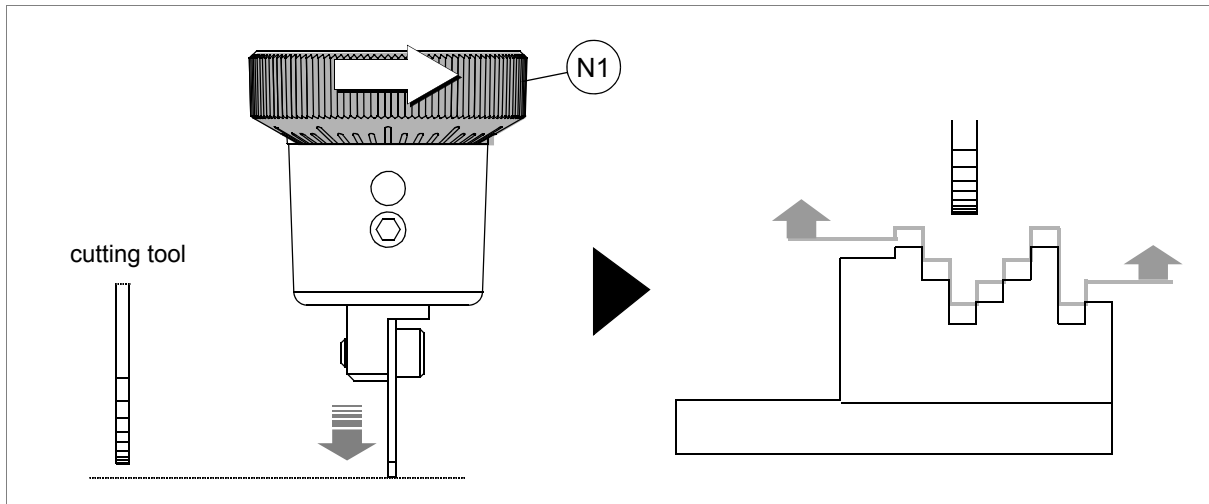

Fig. 21
- turn the ring nut (N1) clockwise to advance the tracer point (fig. 21).